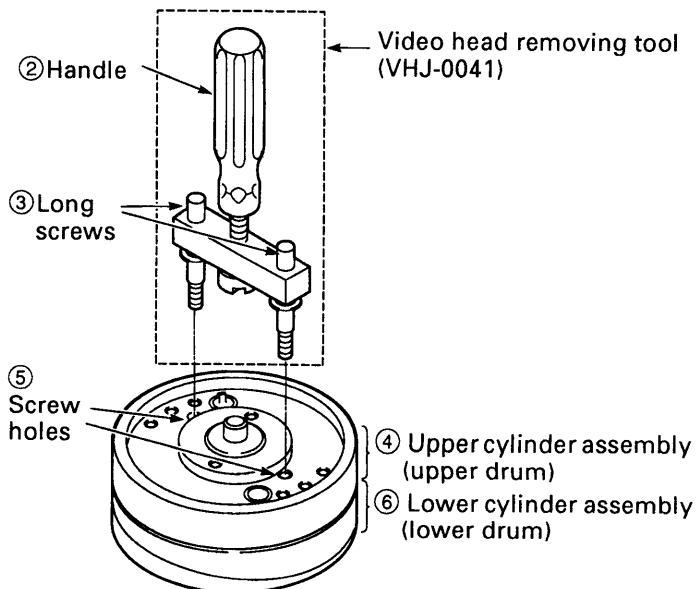

Fig.3-5-2
- 2) First, tighten the handle ② of the video head removing tool (VHJ-0041), then screw the two long screws ③ evenly into the two screw holes ⑤ in the upper cylinder assembly (upper drum) ④ (See Fig. 3-5-2).
- 3) Hold the tool (VHJ-0041) so that the upper cylinder assembly (upper drum) ④ does not rotate, and at the same time, turn the handle ② clockwise, and remove the upper cylinder assembly (upper drum) ④.
- 4) Remove the tool (VHJ-0041) from the upper cylinder assembly ④.